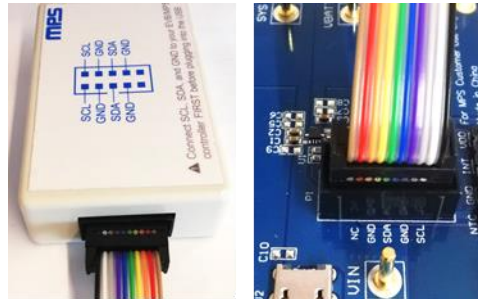

Figure 6: EVB to MPS I²C Communication Interface Wire Connection
2. Connect SCL, SDA, and GND (see Figure 6). If necessary, refer to the datasheet for further clarification.